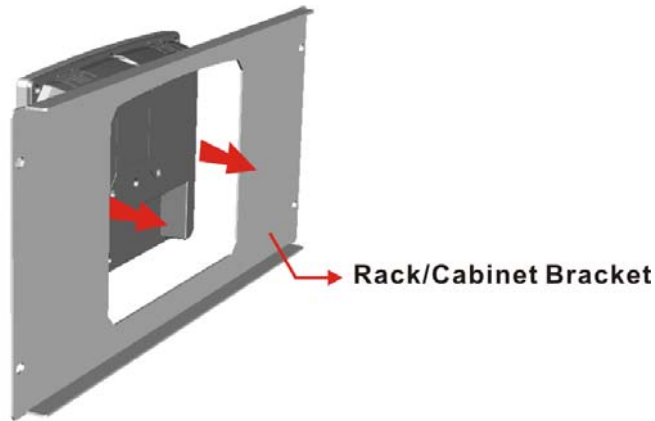

Figure 2-15: The Rack/Cabinet Bracket
- Step 1:** Slide the rear of the AFL-W19A/17D/W15A-N270 flat panel PC through the rack/cabinet bracket until the aluminum frame is flush against the front of the bracket (**Figure 2-15**).